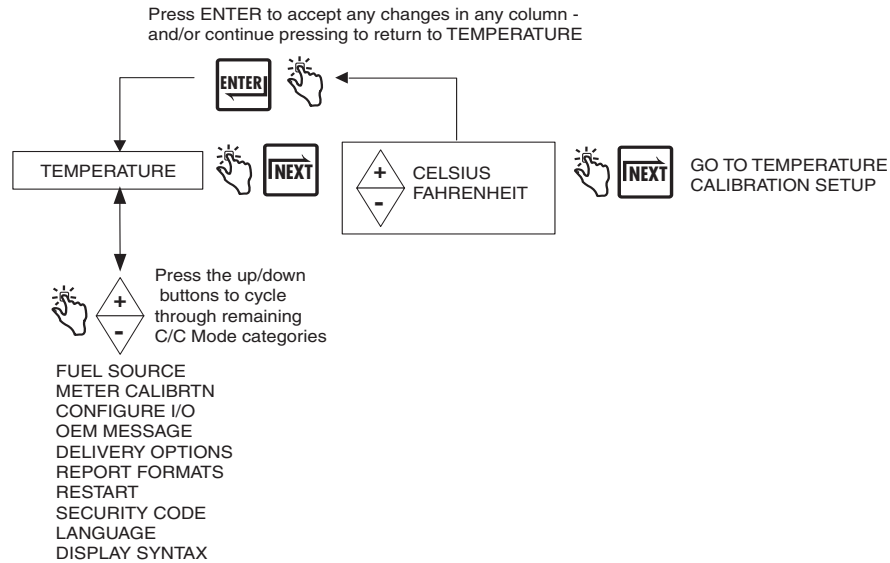

Figure 37. Temperature Setup
Figure 37 illustrates Temperature Probe's setup in C&C Mode.
1. Set the temperature mode to Celsius or Fahrenheit as shown in Figure 37, Temperature Setup.